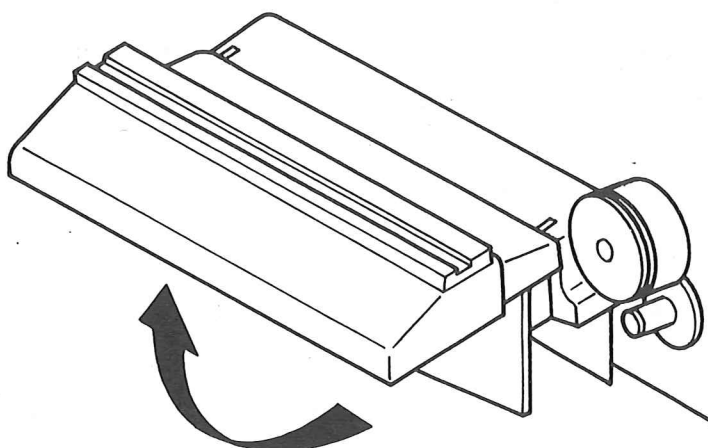

Fig. 2-1 Lifting the Head Cover
2. Lift the head cover as shown in Fig. 2-1.
2. Lift the head cover as shown in Figure 2-1